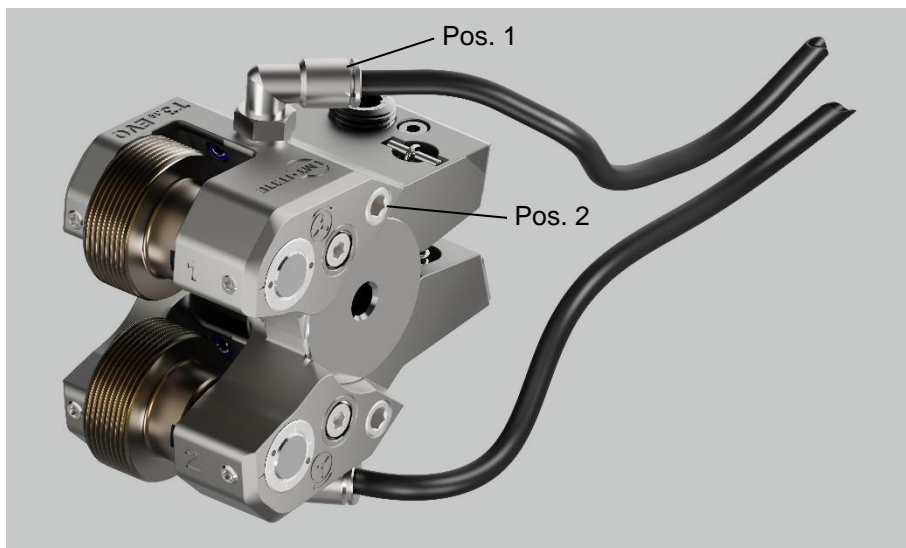

Figure 8: Coolant supply from above (below)
- The visual inspection must correspond to Fig. 8, otherwise the transmission is not synchronized.
- The visual inspection must correspond to Fig. 8, only then is the gear unit synchronized.